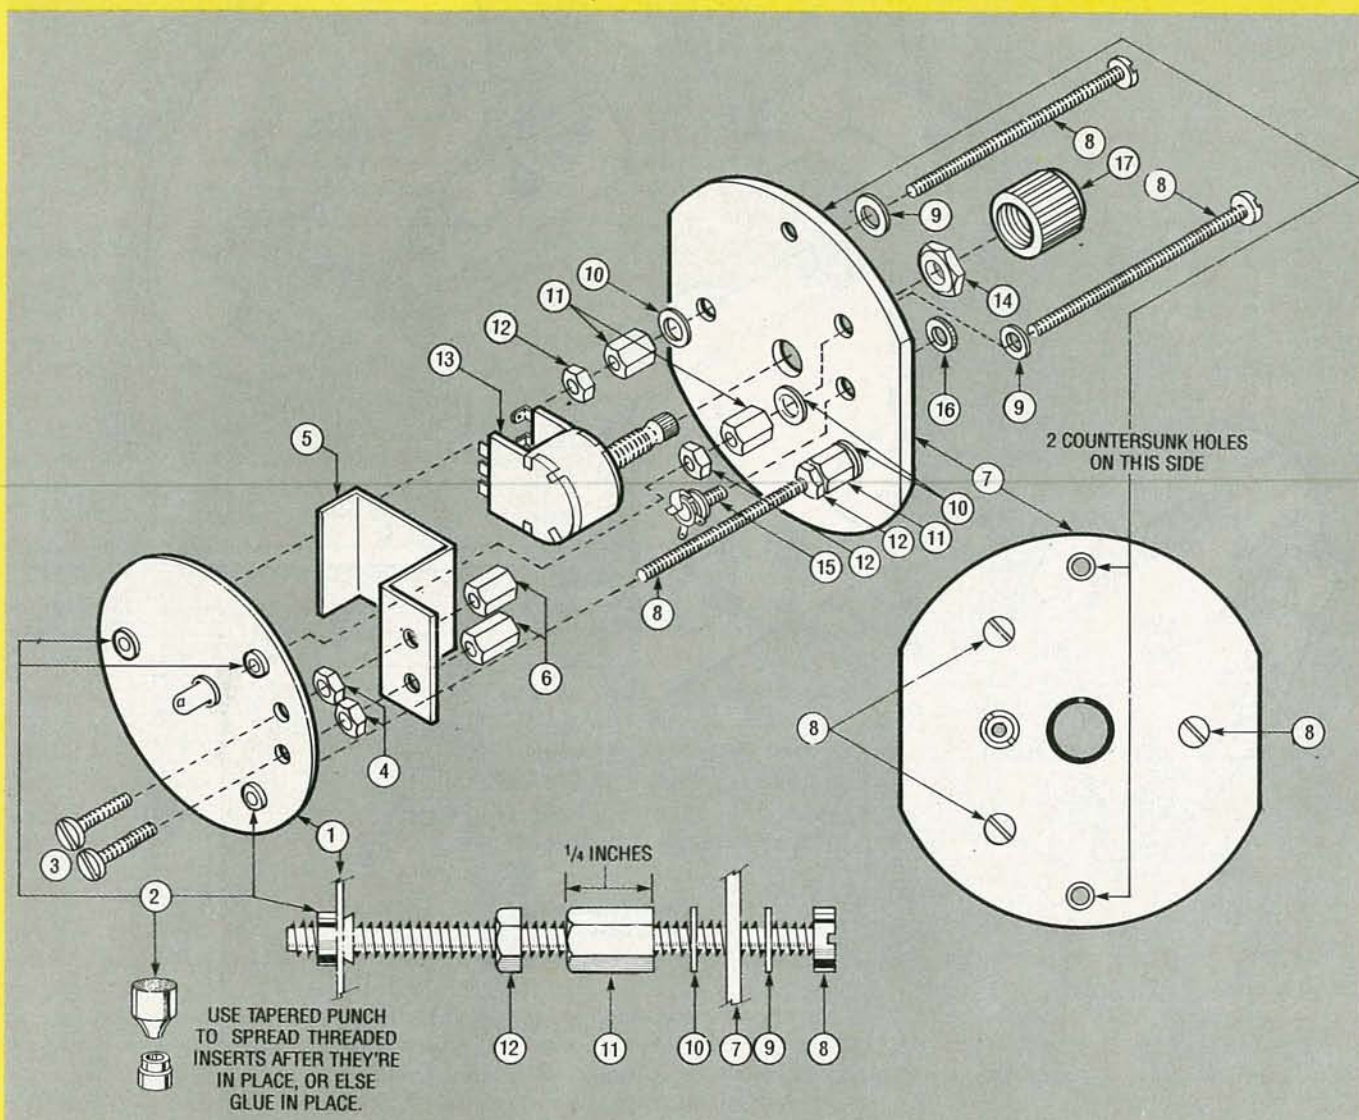

FIG. 1—THE TRANSMITTER is assembled as shown. Look over the assembly instructions carefully before starting the project.
Let's start our mechanical assembly with the transmitter. As shown in Fig. 1, take the completed PC board (1) and install the three rivet-like threaded inserts (2). This is normally done by first inserting the narrow end of an insert through each of the three holes on the edge of the PC board. (The narrow end should now be protruding on the solder side of the board.) By resting the wide end of the insert on a *solid* surface, the narrow end is spread apart, by giving it a whack with a tapered punch. Otherwise, you can use some *Krazy Glue* or RTV silicone to secure them to the board.
Next, take two $\frac{1}{8}$ -inch-long screws (3), insert them in the proper holes, and secure them with a nut (4). Then place the battery holder (5) over the ends of those screws as shown in Fig. 1, and secure the battery holder with two $\frac{1}{8}$ -inch long threaded spacers (6). (The battery is held down by tightening those spacers with the battery in place. Just be sure that the battery has
PARTS LIST FOR THE TRANSMITTER (FIG. 1)